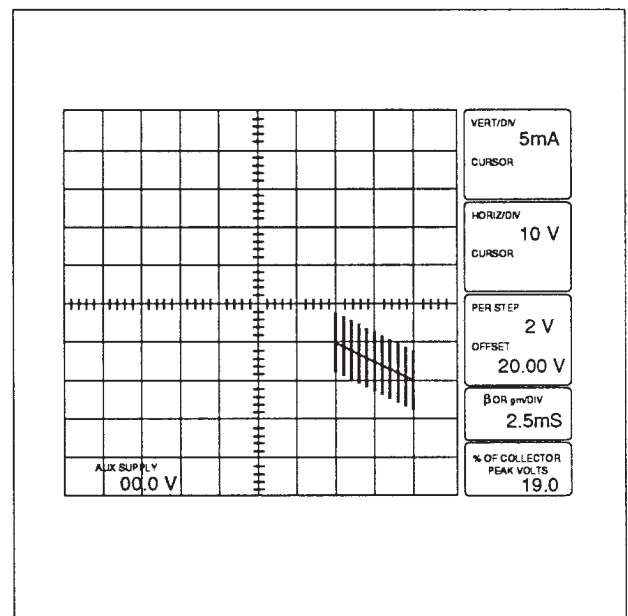

Figure 4-8. First test display for Maximum Current check, left collector and left base connected.
- Set the VARIABLE COLLECTOR SUPPLY control so the negative travel of the outside right vertical line of the displayed waveform extends past the second horizontal graticule line below graticule center (see Figure 4-8).
f. Set the VARIABLE COLLECTOR SUPPLY control so the negative travel of the center vertical line of the displayed waveform extends past the second horizontal graticule line below graticule center (see figure 4-8).